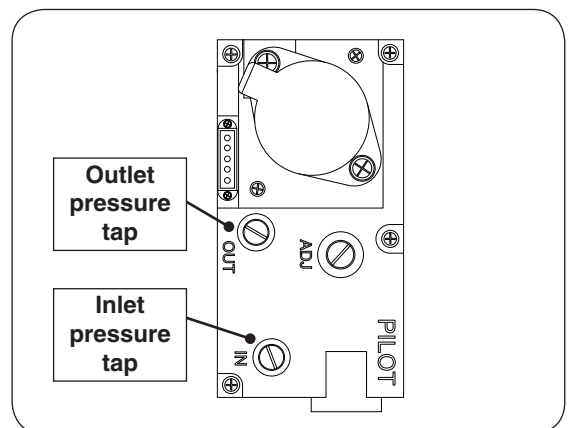

Fig. 27-2 Gas valve detail
1. With the burner system on, check the gas pressure to ensure all requirements are met. Reference Fig. 27-2 for pressure tap locations, and the GAS PRESSURE REQUIREMENTS section for details.